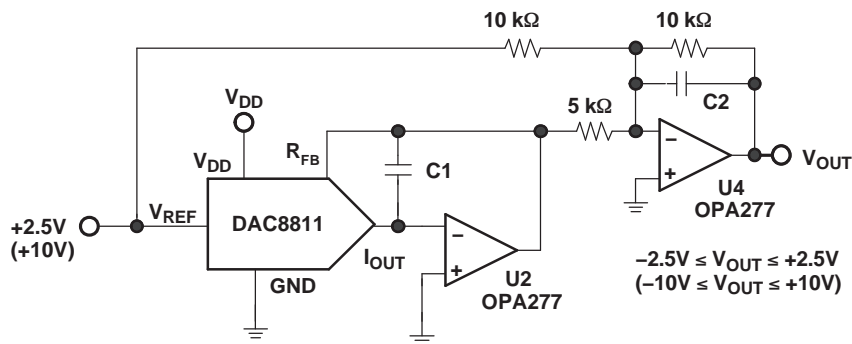

Figure 22. Bipolar Output Circuit
Some applications require full 4-quadrant multiplying capabilities or bipolar output swing. As shown in Figure 22, external op amp U4 is added as a summing amp and has a gain of 2X that widens the output span to 5 V. A 4-quadrant multiplying circuit is implemented by using a 2.5-V offset of the reference voltage to bias U4. According to the circuit transfer equation given in Equation 2, input data (D) from code 0 to full scale produces output voltages of $V_{OUT} = -2.5$ V to $V_{OUT} = +2.5$ V.
External resistance mismatching is the significant error in Figure 22.